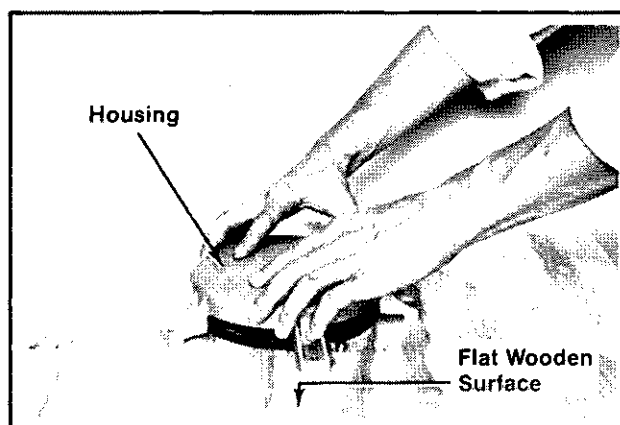

Figure 7-17. Removing Spring From Housing.
4. Lift the housing and rap it firmly against the wooden surface. Repeat this procedure until the spring is released from the spring pocket in housing. Refer to Figure 7-17.